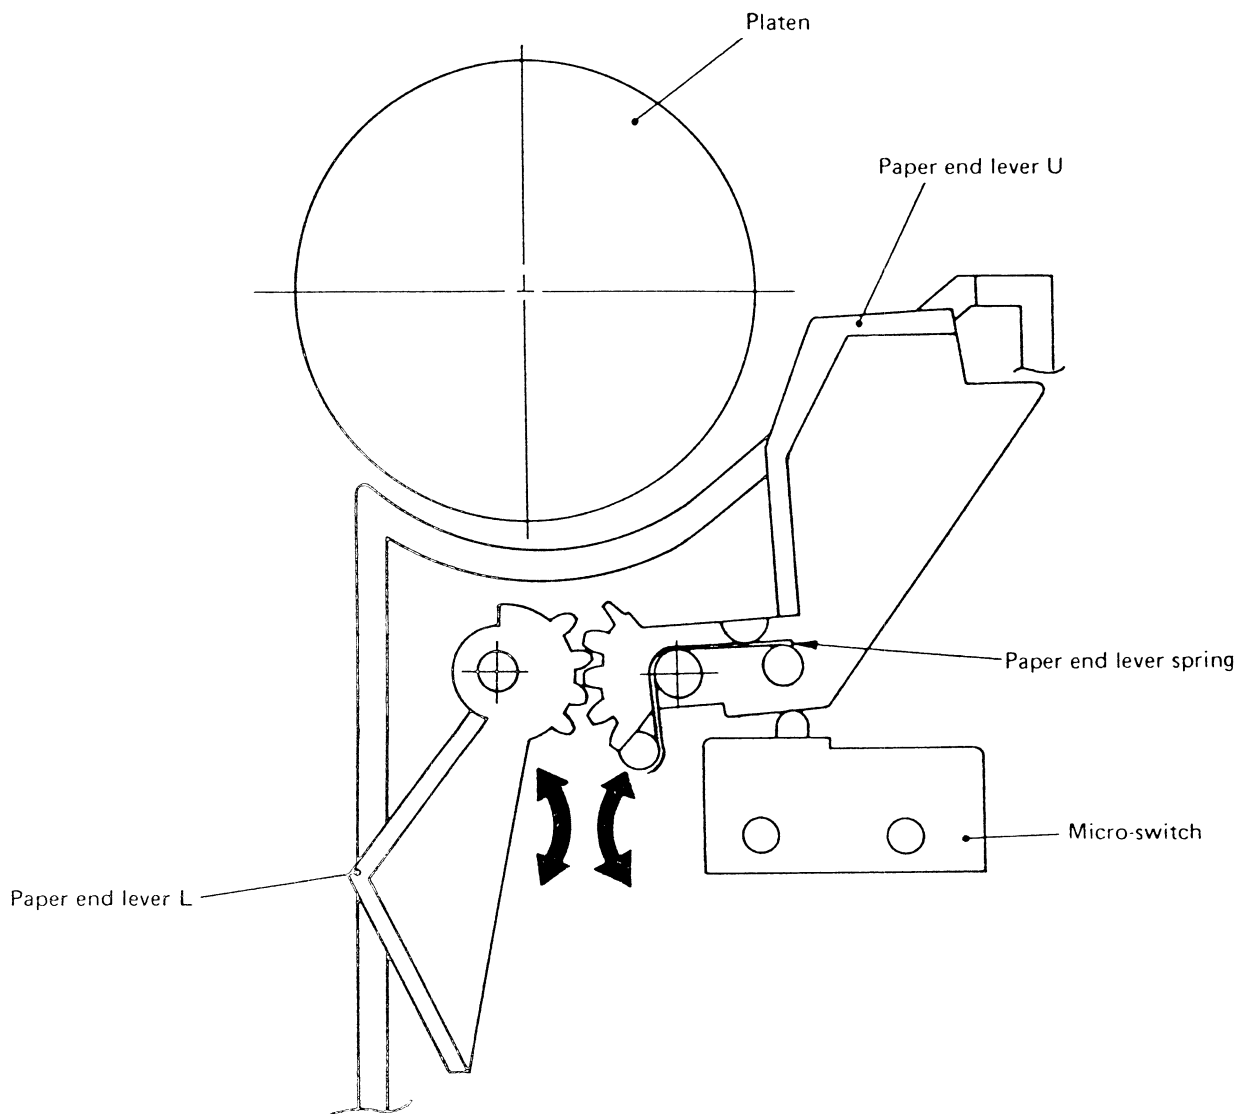

Fig. 6
(2) Paper out detection mechanism (see Fig. 6)